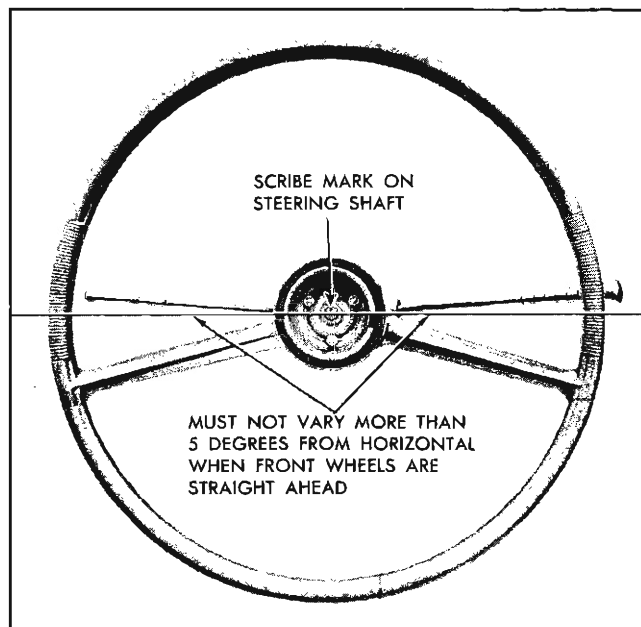

Fig. 9-6 Locating Steering Wheel Position
3. Reassemble steering connecting rod to pitman arm. Set spokes of steering wheel in straight ahead position (mark on steering shaft up, Fig. 9-6). If road wheels are not straight ahead, adjust steering tie rods.
**NOTE:** Scribe mark on steering shaft must be positioned at top of shaft and steering wheel must not vary more than five degrees from horizontal when front wheels are straight ahead (Fig. 9-6).